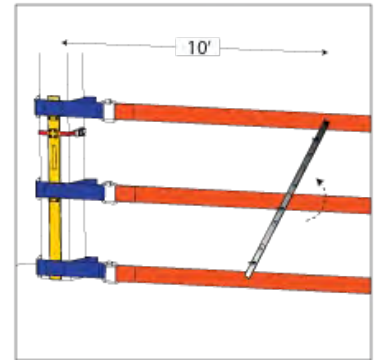

Figure 64
- i) Attach the Anti-Deflection Post to the railing straps. (Fig. 64)